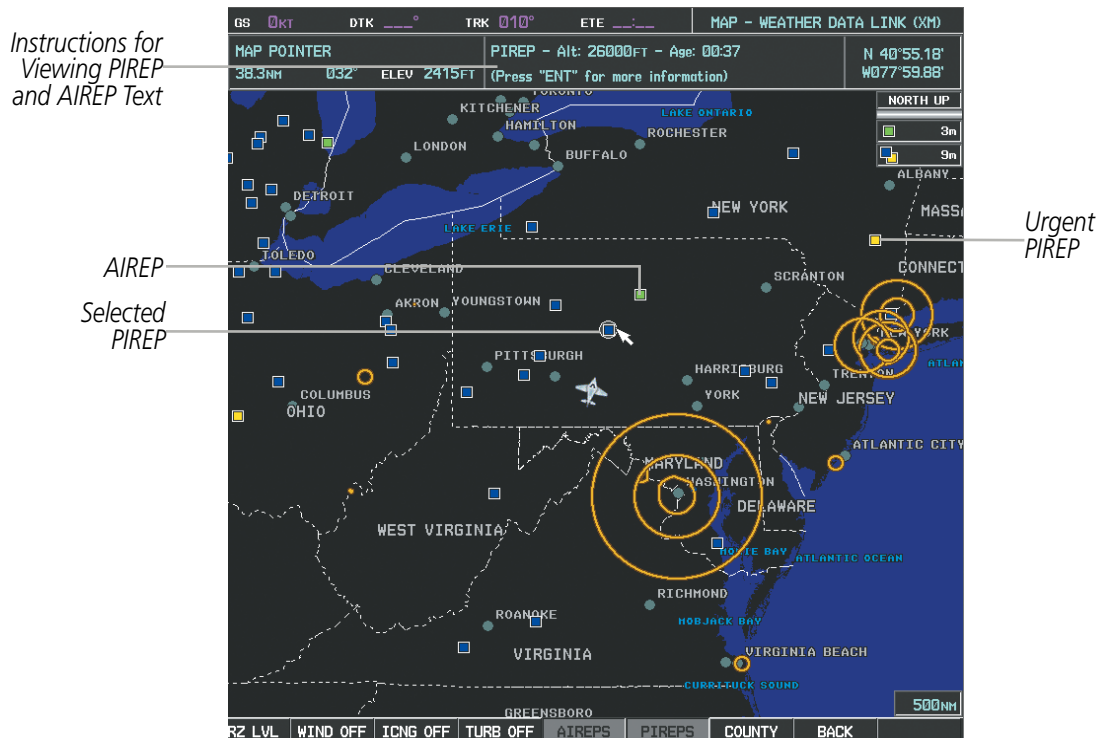

Figure 6-46 AIREPs and PIREPs on the Weather Data Link Page
Pilot Weather Reports (PIREPs) (Figure 6-46) provide timely weather information for a particular route of flight. When significant weather conditions are reported or forecast, Air Traffic Control (ATC) facilities are required to solicit PIREPs. A PIREP may contain unforecast adverse weather conditions, such as low in-flight visibility, icing conditions, wind shear, and turbulence. PIREPs are issued as either Routine (UA) or Urgent (UUA).